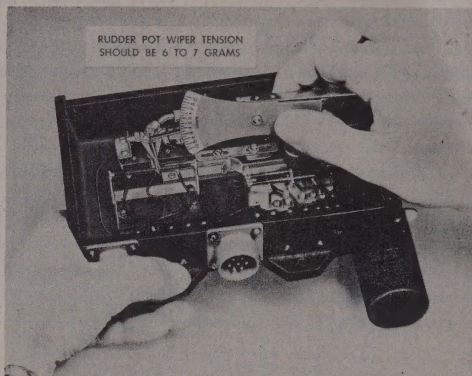

Figure 312 — Checking Rudder Potentiometer Wiper Tension
2. Engage the hook of the gram gage around the end of the rudder potentiometer wiper, and then slowly move the gram gage and note the reading when the potentiometer wiper just breaks contact with the winding. (See figure 312.) This tension should be 6 to 8 grams.